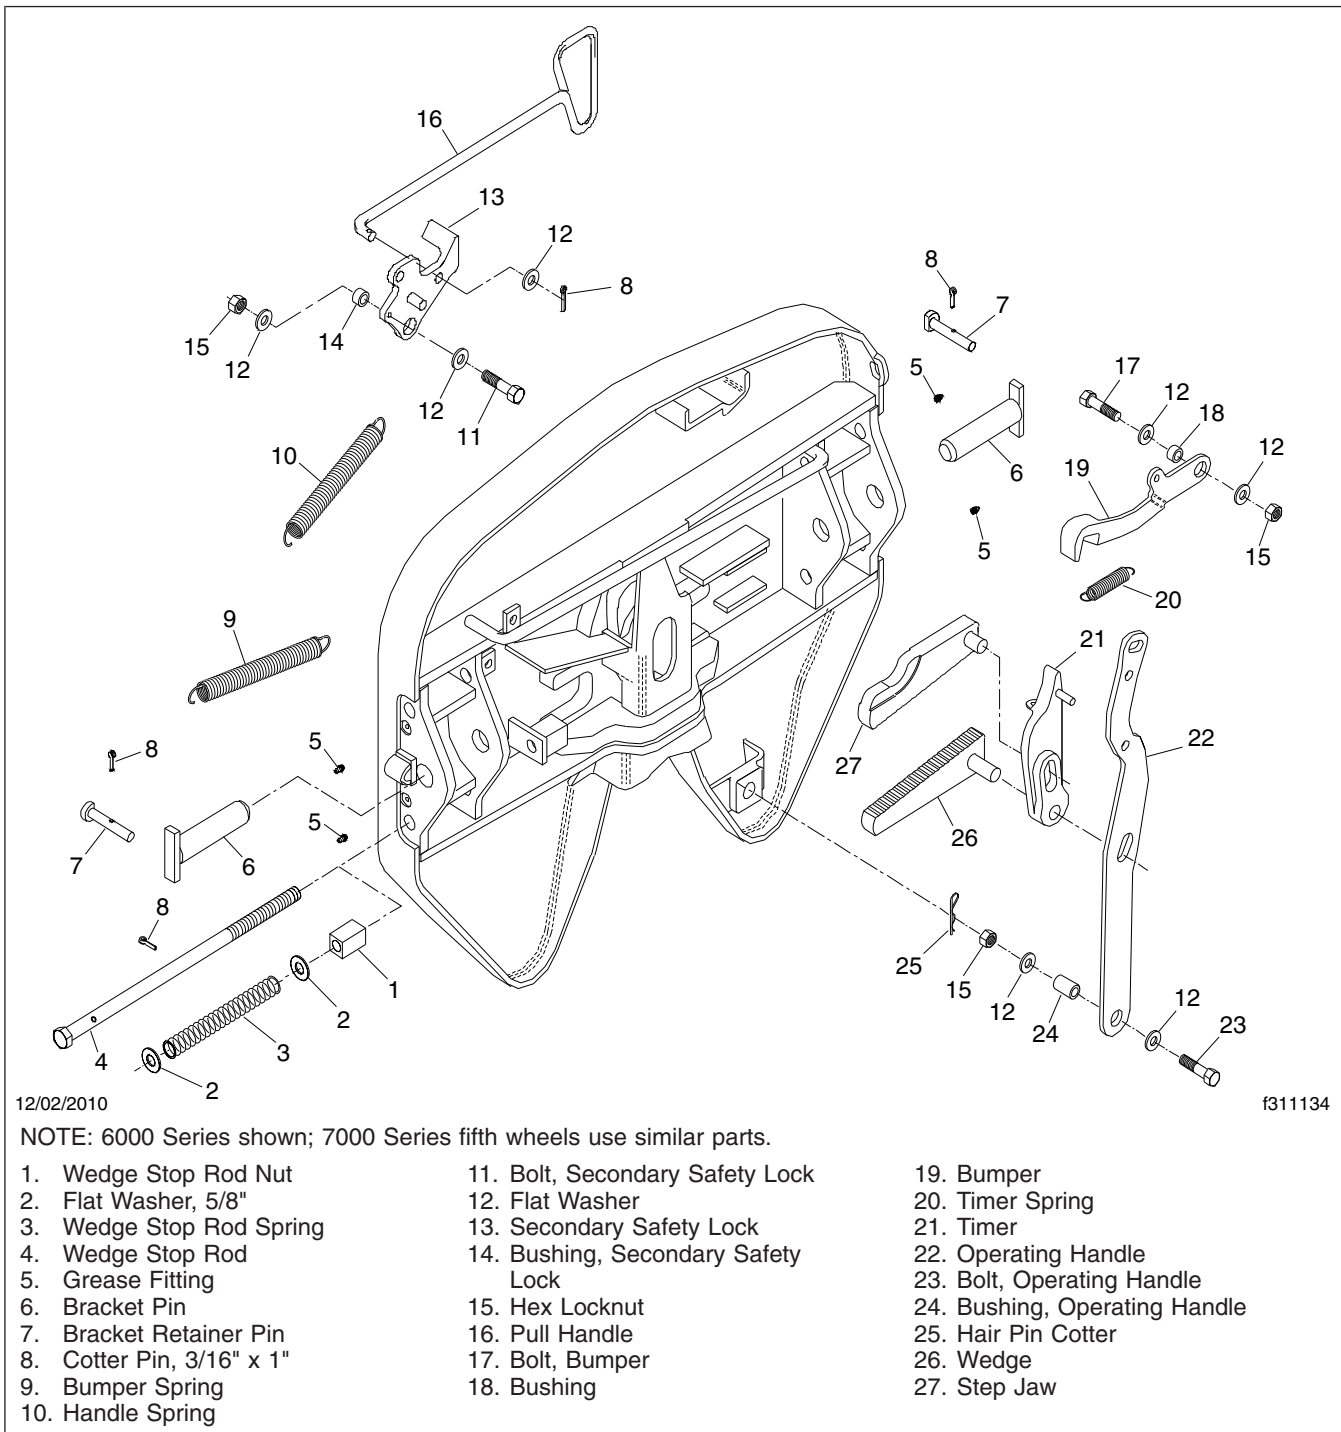

Fig. 1, Fontaine Fifth Wheel
4. Ensure that both bracket pins are in place and secured by retainer pins and cotter pins. See Fig. 1.